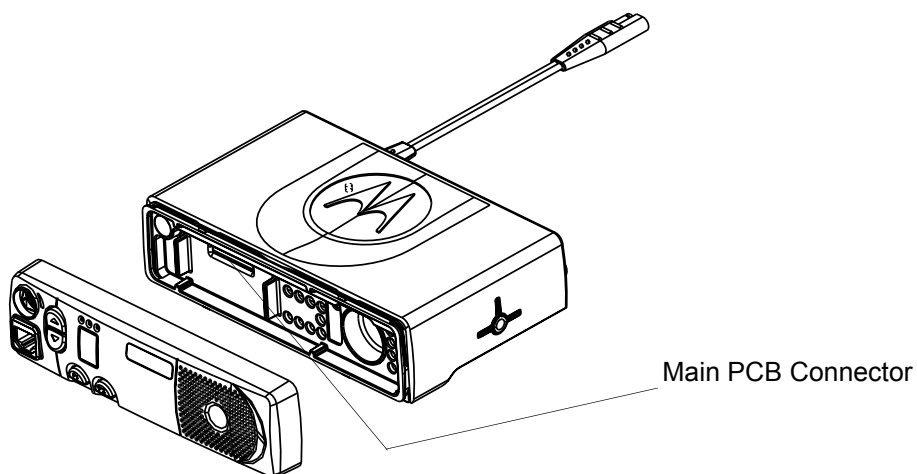

Figure 2-3 Flat Cable Removal
3. To free the control head, disconnect the flat cable from the chassis assembly See Figure 2-3.